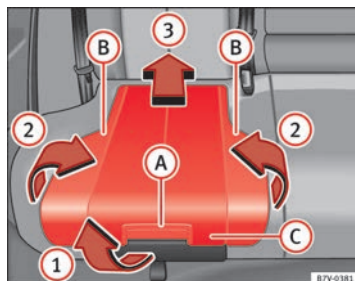

Fig. 29 Integrated child seats, lift up the cushion.
- Pull the unlock lever  $\Rightarrow$  fig. 29 (A) on the cushion in the direction of the arrow (1).
- Fold both sides (B) up in the direction of the arrow (2).
- Push the cushion (C) back in the direction of the arrow (3) until it engages.